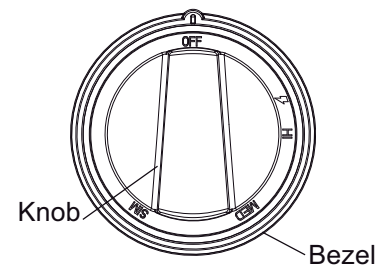

Figure 10: Standard Burner Control Knob
- Check each burner to make sure there is no gap between the burner cap and burner base. See Figures 10 and 11: Correct and Incorrect Burner Cap Placement to see examples of correct and incorrect placements of the burner cap.
- You may gently try to move the burner caps from side to side to check if the caps are properly placed on the burner bases. When properly placed, each burner cap will rest flat on top of its burner base, and completely cover the star-shape of the burner base when viewed from the top as shown in Figure 10: Correct Burner Cap Placement.